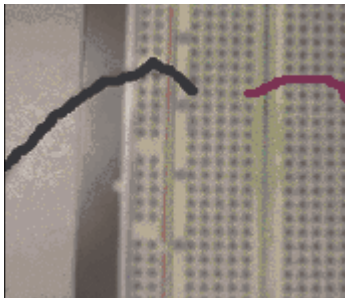

Figure 13
- a. Stick two wires into the breadboard as shown in figure 13. You may need to strip them using the wirestrippers on your workbench. Use the continuity tester in the DMM to determine if the two wires are connected.